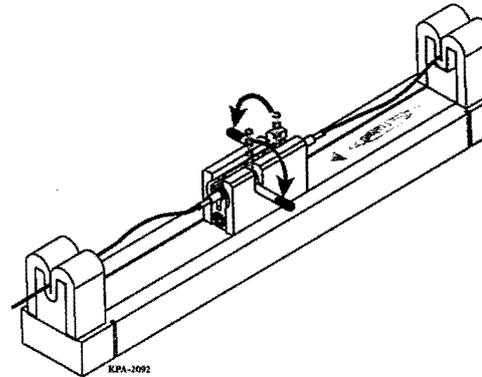

Figure 12 — Actuate Levers
Step 5: Slowly rotate both levers down to actuate the CamSplice (Figure 12).
- e. If the loss is acceptable, rotate both cams to 90 degrees as shown in Figure 12 and continue with the procedure to finish the installation.